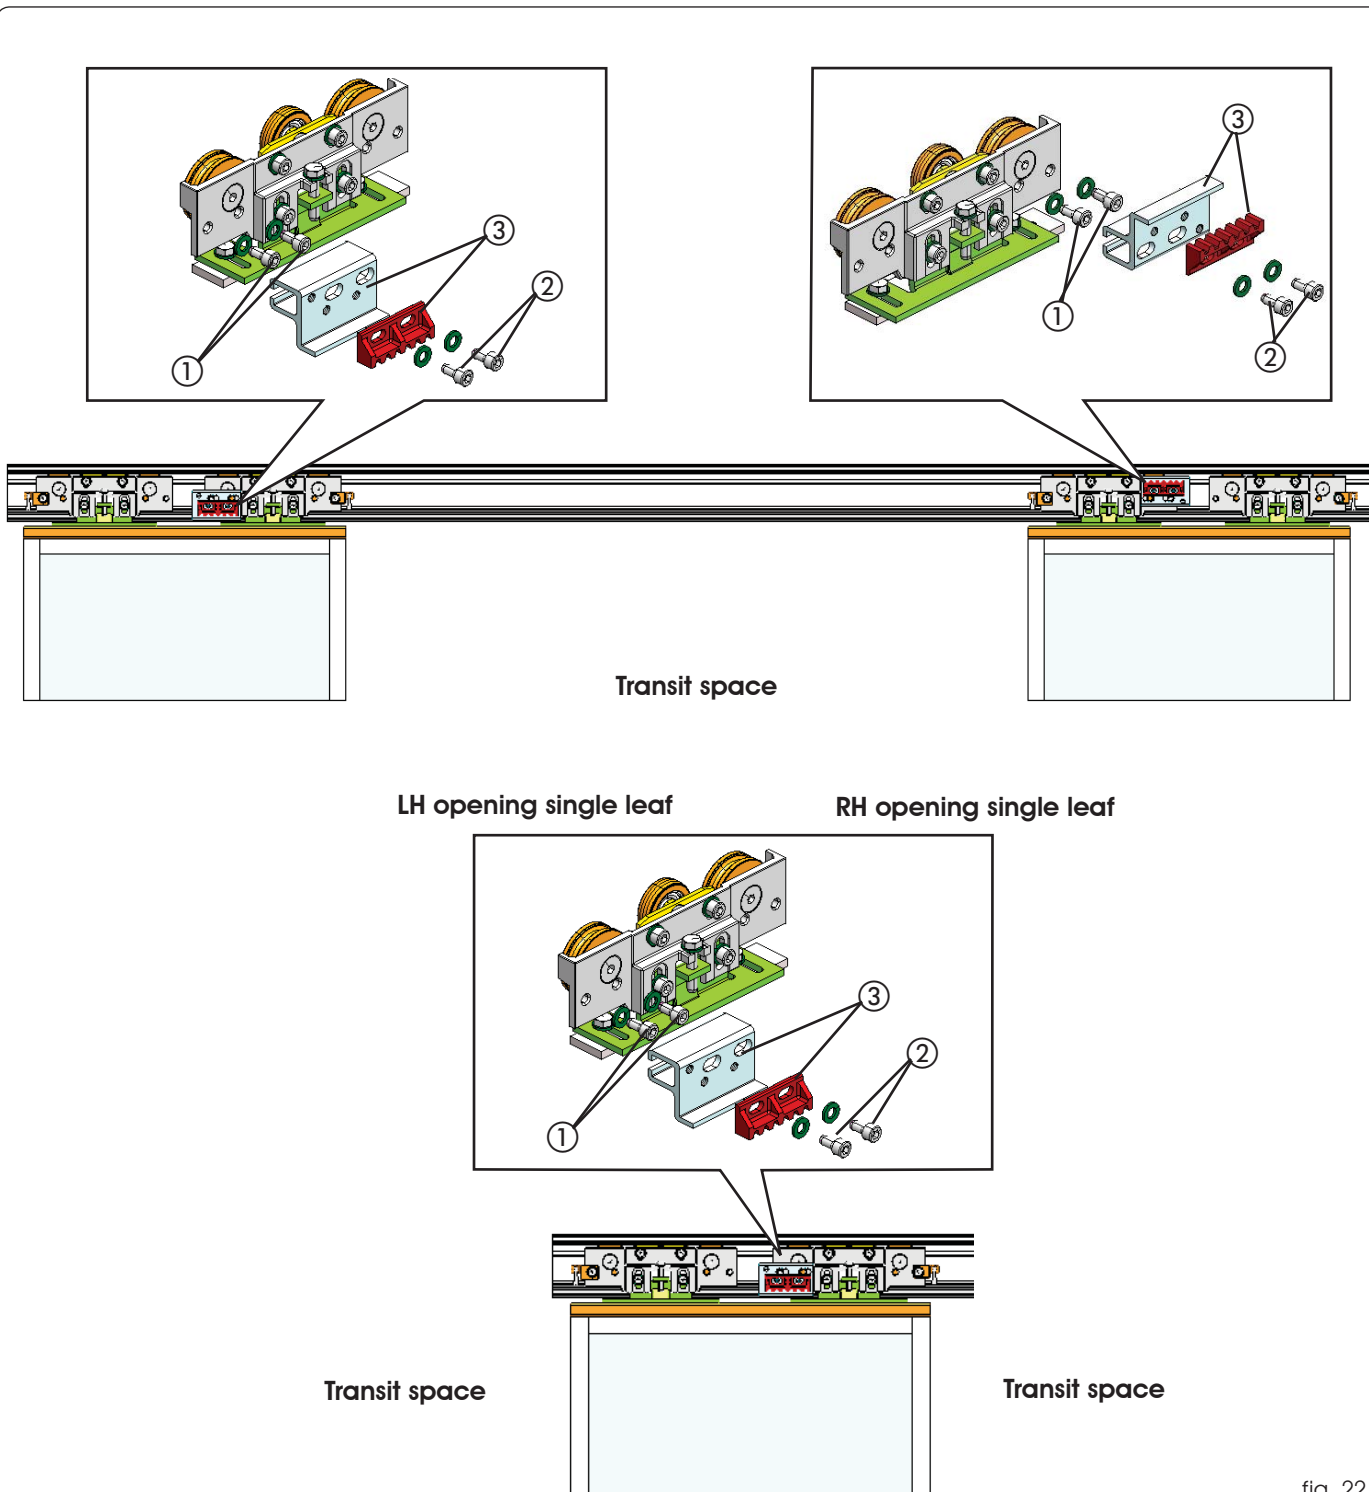

fig. 22
The automated system is supplied with the belt fastened to the carriages by the fastening fittings (Fig. 22 ref. ③) It is usually unnecessary to modify this fastening, but, if it is necessary to adjust finely, proceed as follows:
- Turn the two pairs of screws (Fig. 22 ref. ① and ②) of each carriage to obtain the required adjustment.
- Tighten the screws (Fig. 22 ref. ① and ②) .